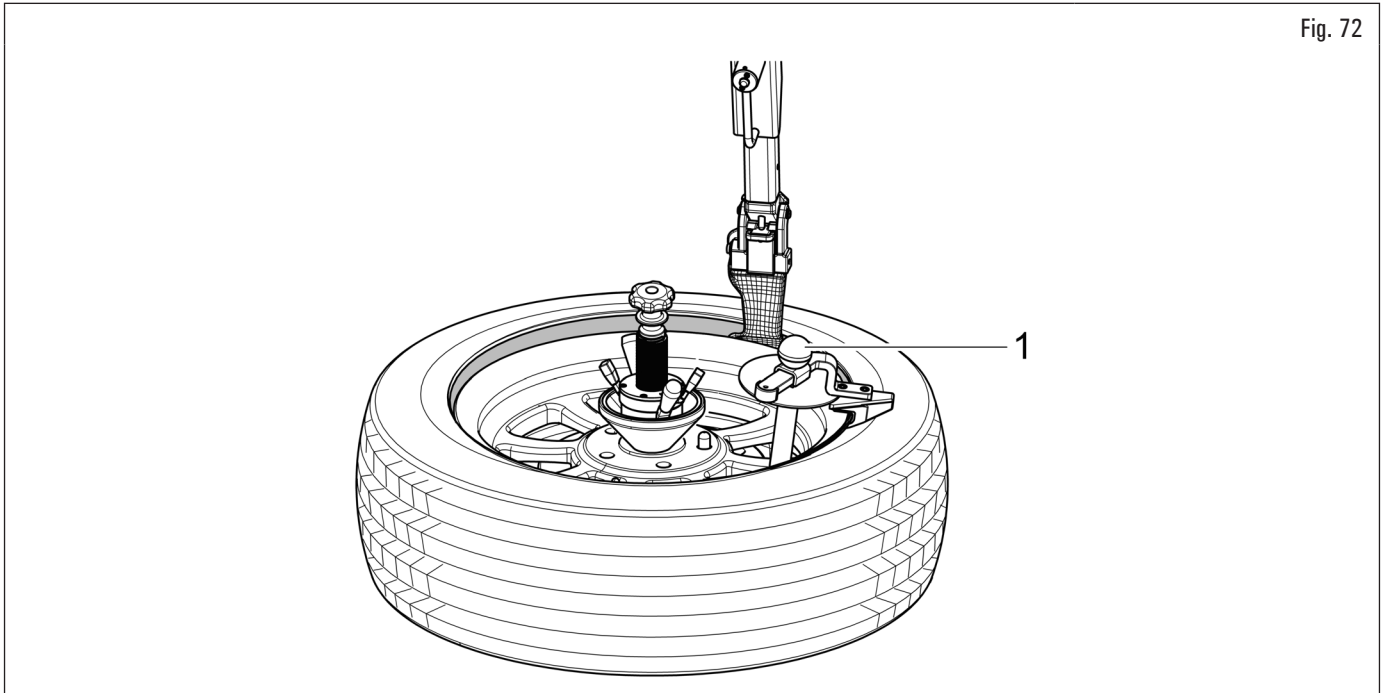

Fig. 72
1. Fit the beadpusher with puller (Fig. 72 ref. 1) at the edge of the rim (see Fig. 72);